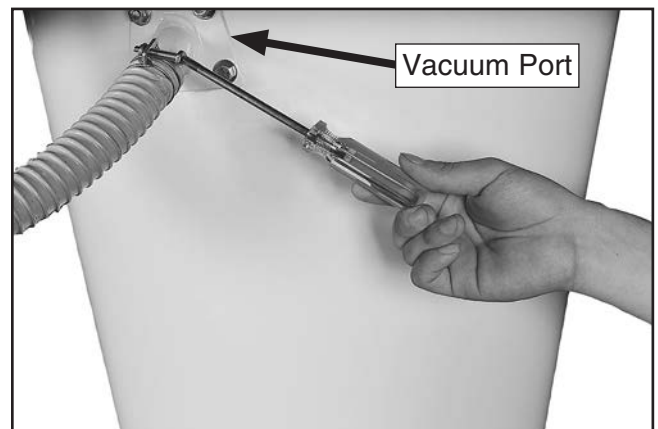

Figure 23. Cyclone vacuum tube and hose attachment.
18. Apply the 3 x 6 x 300mm foam tape to the mating surface of the cyclone vacuum port, then attach it to the cyclone funnel with (4) $\frac{5}{16}$ "-18 x $\frac{3}{4}$ " hex bolts and (4) $\frac{5}{16}$ " flat washers (see **Figure 23**).